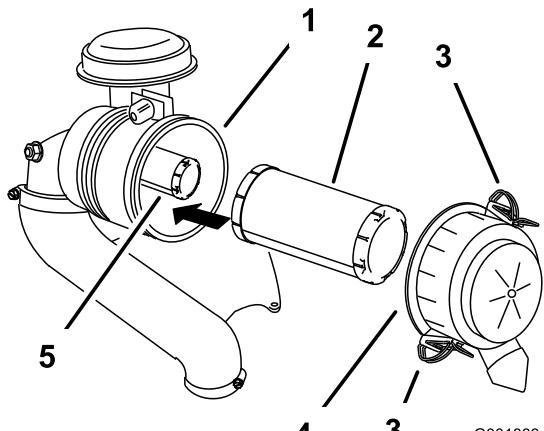

Figure 36
3. Release the latches on the air cleaner and pull the air cleaner cover off the air cleaner body (Figure 36).
5. Gently slide the primary filter out of the air cleaner body (Figure 36).
2. If the safety filter is being replaced, carefully slide it into the filter body (Figure 36).
3. Carefully slide the primary filter over the safety filter (Figure 36).
4. Install the air cleaner cover with the side indicated as **up** facing upward and secure the latches (Figure 36).